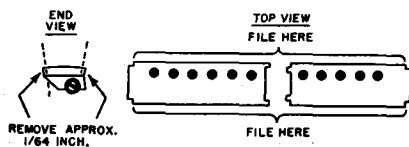

Fig. 60 — Dumont
**Using R-coded uhf strips in 13-position tuner (see Fig. 60).**